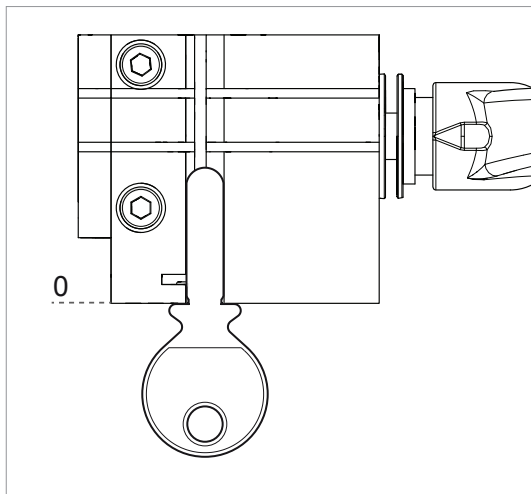

Fig. 23
- 1) Place the original key into the left-hand clamp of the machine making sure that the key stop is pressed against the clamp (Fig. 23) and lock it.